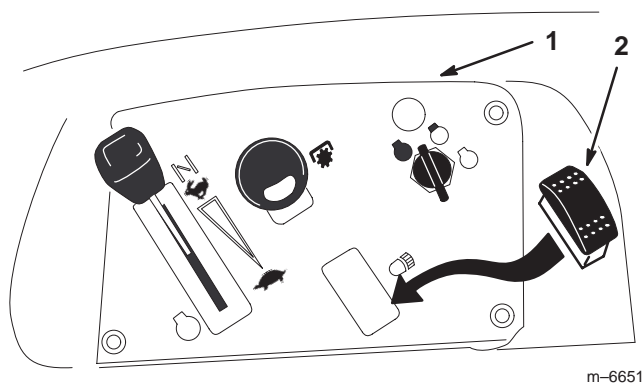

Figure 4
2. Install the light switch into the control panel (Fig. 4).